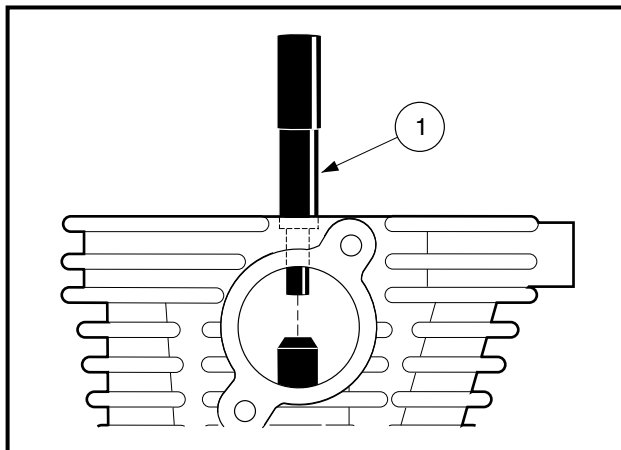

Figure 2-15 Valve Guide Removal
1. With the combustion chamber side of the head facing up, drive the guide out of the head with a valve guide arbor (1) (CCI P/N 101641202) (Figure 2-15, Page 2-10).